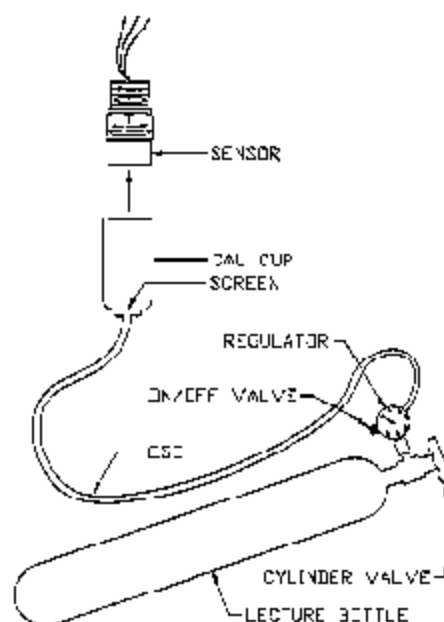

Figure 15
- Place the cup from the portable purge calibrator over the sensor (figure 15).